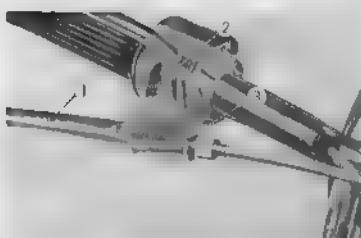

Fig. 4-56 Removing front brake lever
- (1) To remove the front brake lever (1), remove the handle lever pivot screw (2) and remove the front brake cable by aligning the grooves in the handle lever and the nut (3). (Fig. 4-56)